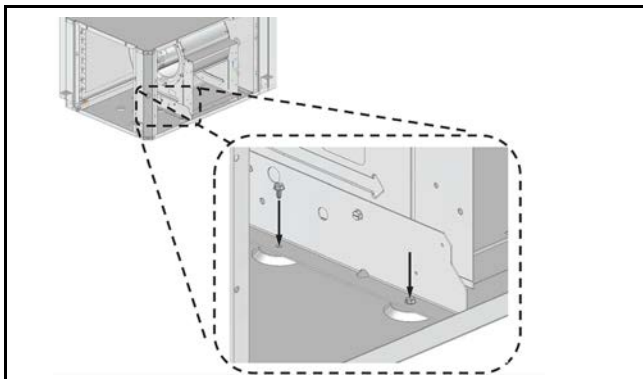

Fig. 37
14. Secure the two horizontal blower brackets to the unit base using four screws. (See Fig. 37.)